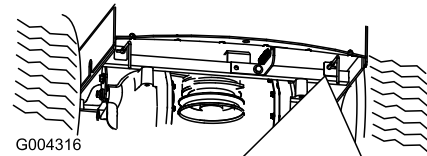

Figure 23
3. Move the two bypass levers to the inside and push them in until the washer on the rod passes through the slot (Figure 23).
4. Push the levers outward to lock them in place (Figure 23).
Move each bypass lever to the inside and pull them rearward, completely through the slot (Figure 23). Push the levers outward to lock them in place.